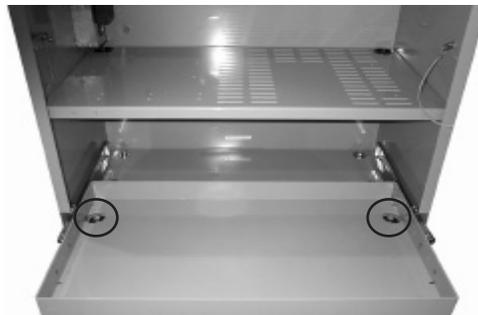

Fig. 2-8, Access Holes for Front Bracket Mounting Locations
2. Secure the mounting brackets to the enclosure with the six bolts provided. Insert the bolts from inside the enclosure. Use the holes in the battery tray to access the front bolt locations (See Fig. 2-8). Tighten the bolts to 240 in-lbs (27.1 Nm).